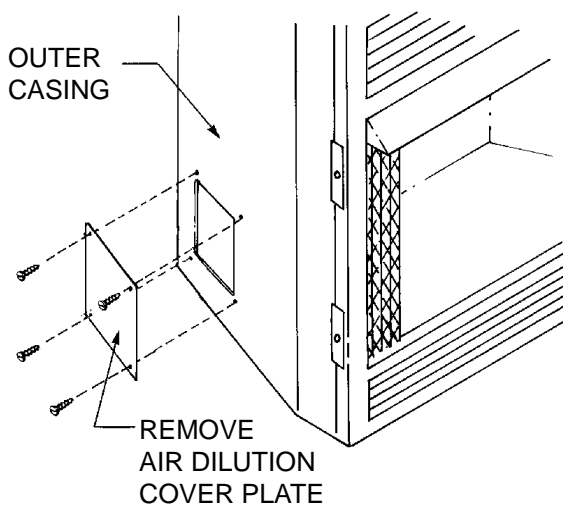
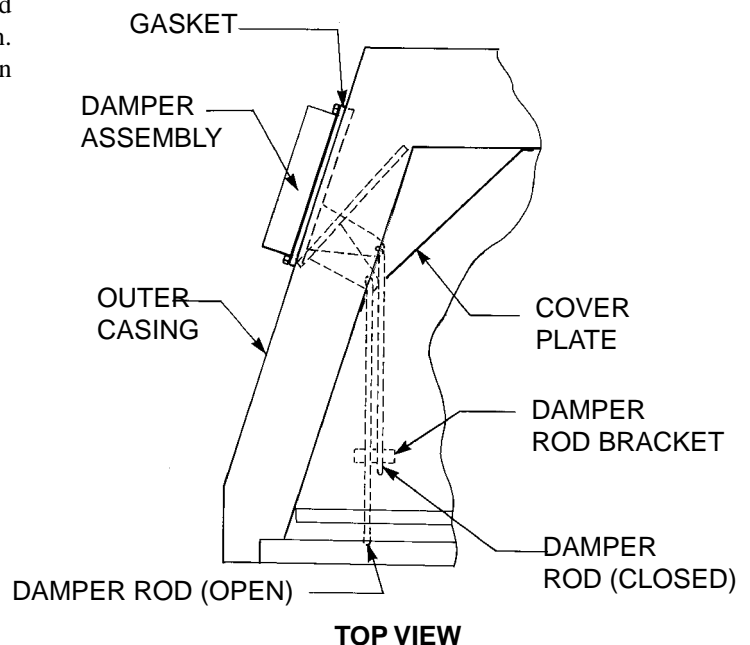

Figure 2 Damper Assembly Location
Figure 3 Top View of Air System Installation
Installing Fresh Air Intake Kit (Figures 2, 3, 4, 5, 6)
1. Remove air dilution cover plate from left side of outer casing by removing (4) 10 x 1/2" screws (See Figure 2).
2. Attach damper assembly onto left side of outer casing with (4) 10 x 1/2" screws from Step 1. The 3" damper door tab will be positioned to the right as the damper assembly is attached to left side of outer casing.
3. As you face the fireplace, insert damper rod bracket into left, interior bottom of fireplace for 36/42 models. The 3/4" flange on damper rod bracket must face toward the rear of fireplace. Align (2) clearance holes on damper rod bracket with (2) screw holes on left side of hearth pan. Attach damper rod bracket to the underside of hearth pan with (2) 10 x 1/2" provided screws (See Figure 3).